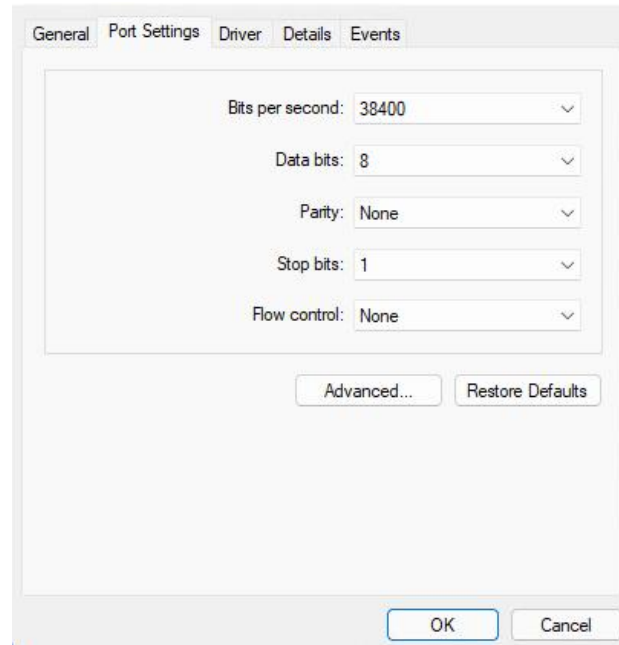

Fig.7
1.7 Double-click the created virtual port, adjust the specific port Settings, depending on the actual conditions of the device. Fig. 7 shows the required configuration of the device.